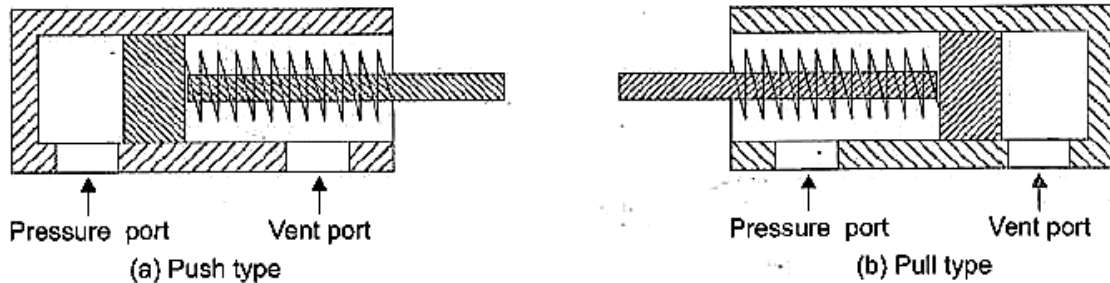

Fig.5.5 Spring return single acting cylinder
- ▶ A spring return single acting cylinder is shown in Fig.5.5 Part (a) is push type, where the pressure is sent through pressure port situated at the blank end of the cylinder. When the pressure is released, the spring automatically returns the cylinder to the fully retracted position. The vent port is open to the atmosphere so that air can flow freely in and out of the rod end of the cylinder.